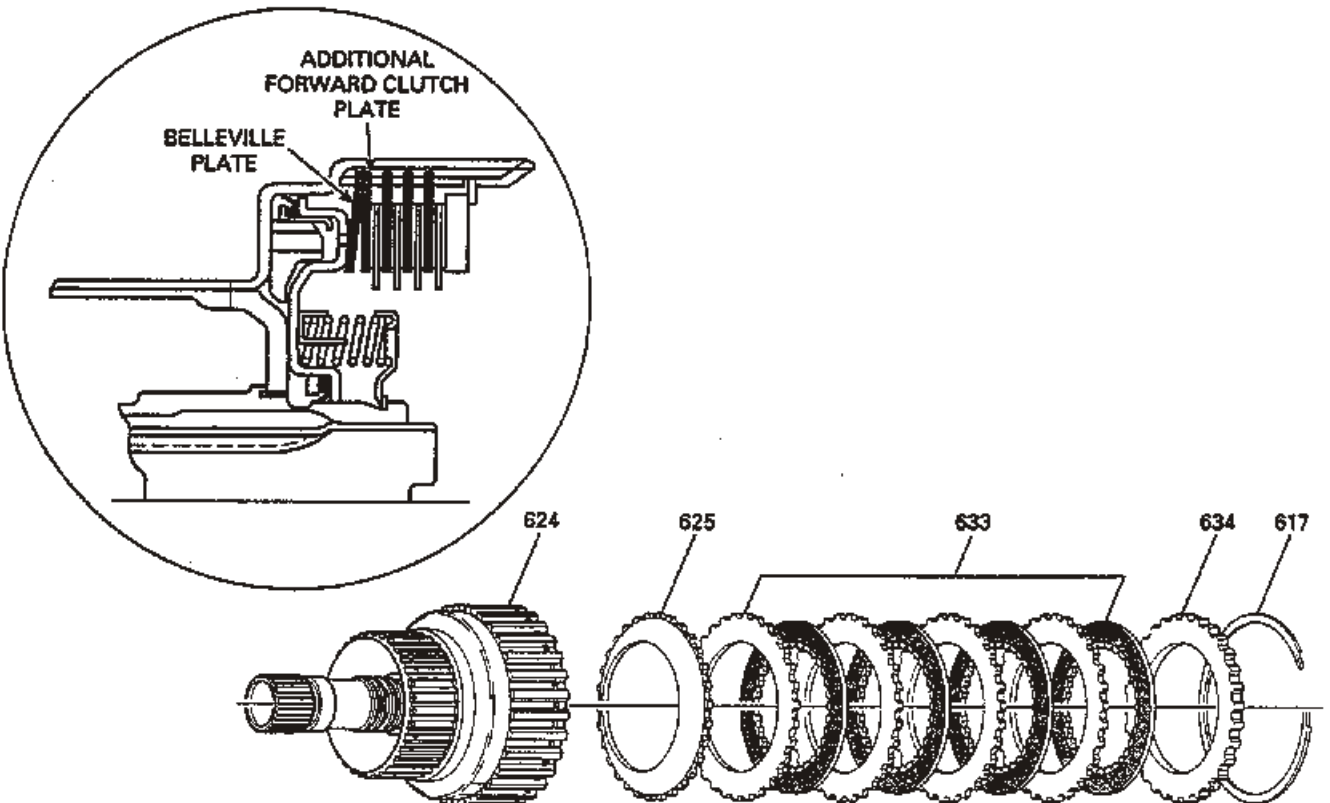

Figure 3
(4) BACKING PLATE - The backing plate used in the re-designed forward clutch pack happens to be the thinnest of the current design selective backing plates, and was used to make the forward clutch clearance correct. Because of the elimination of the "Wave" plates there is no longer any need for selective backing plates and this backing plate will be used in all models. The backing plate being used is .125"-.131" thick and is stamped "D" for identification.
(5) BACKING PLATE SNAP RING - The backing plate snap ring used in the new design forward clutch pack is also a previous design level snap ring that is slightly larger in diameter (Stronger) than the current snap ring, to accommodate the added bellville plate. The stronger snap ring is identified with "Square" cut ends instead of "Stepped" cut ends as shown in Figure 3. The "Stepped" cut snap ring is now used ONLY in the direct clutch pack.